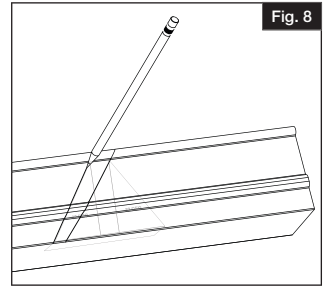
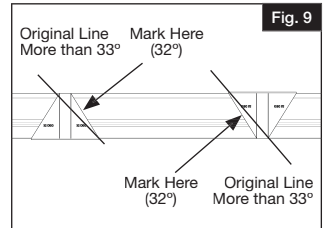
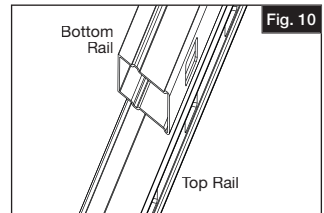
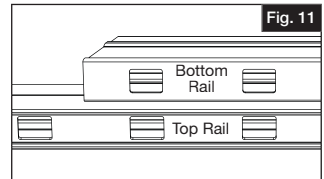

Fig. 8
Fig. 9
Fig. 10
Fig. 11
Locate and mark the center point on the underside of the bottom rail. Attach the rail support to the bottom rail using the supplied set screw (Fig. 8).
Lay bottom rail on a clean smooth surface and snap balusters into routed holes (Fig. 9). Then repeat the process to connect the top rail (Fig. 10).
Slide brackets onto ends of rails (top and bottom) (Fig. 11).
- From the original line created by the post, mark another line  $\frac{1}{16}$ " on the inside of the bottom rail (closer to the baluster routes) (Fig. 8). This is accomplished by using the angle template (Fig. 9). This additional removal of material will allow for bracket clearance when the rail is installed. For this 34°-38° angle, the new line will NOT be parallel to the previously drawn line.
Place top rail flat on table. Lay the cut bottom rail on top of the top rail, with the routed holes facing in the same direction (Fig. 10). Line up the routes (Fig. 11).